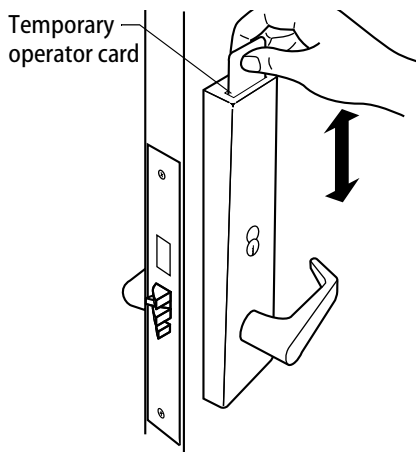

Figure 19
- 1 With the BEST logo facing toward you, insert and remove the temporary operator card, as shown in Figure 19.